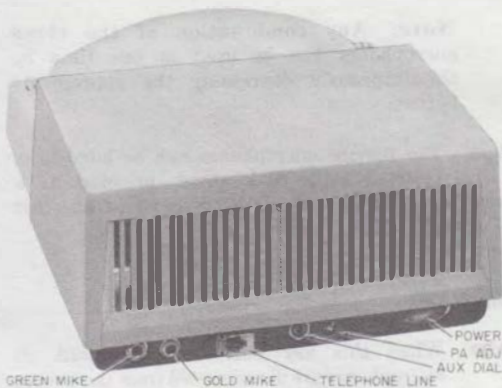

Fig. 2—73B Control Unit, Rear View
3.03 Install telephone line cord, ac power cord, and, as required, microphones or auxiliary TOUCH-TONE dial telephone set to the appropriate jacks located on rear of control unit (Fig. 2).
3.04 Provision is made for reproducing both transmitted and received signals over a customer-owned public address system. A public address adjustment (PA ADJ) (Fig. 2) control is located on the back of the set for adjusting the level of the transmitted signal at the PA terminals. Connections to the public address system are made to the screw terminals on the bottom of the unit (Fig. 3). Connections should be made using a shielded pair, grounded at the customers' equipment only. If desired, the conference set loudspeaker